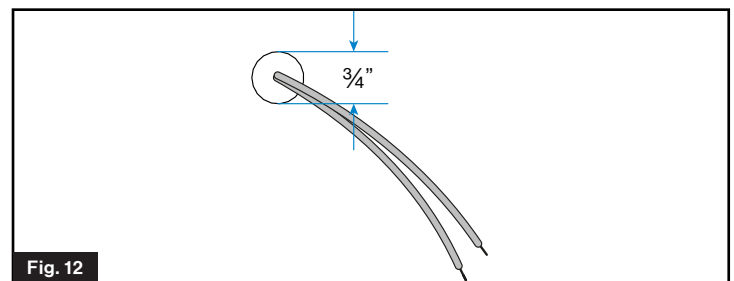

Fig. 12
3. If necessary, run two electrical wires that extend the wall control connections (blue wires) to the appliance connections (blue wires) using the appropriate wire size. (Fig. 12)